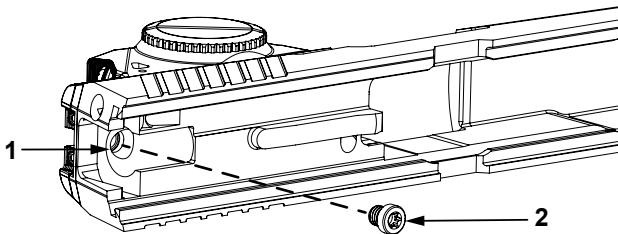

Figure 12. Install Sight Screw.
11. Degrease sight threads (Figure 12, Item 1) and sight screw threads (Figure 12, Item 2) then apply threadlocker.
12. Install new rear sight plate screw (Figure 12, Item 2) to rear sight (Figure 12, Item 1) then tighten to 40 in-lbf.